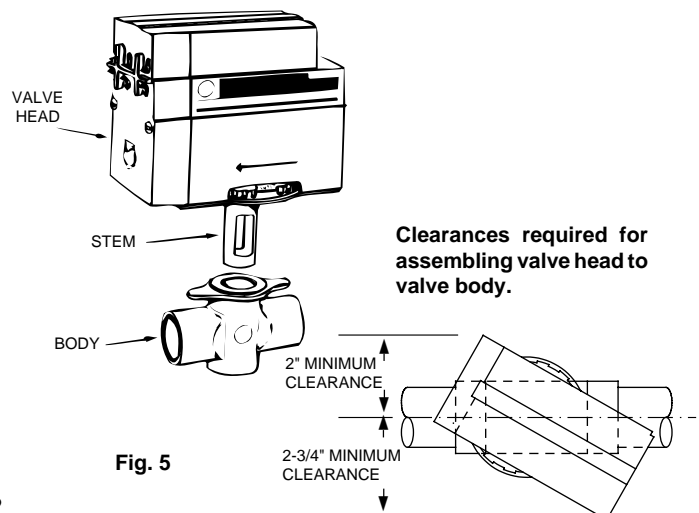

Fig. 5
2. Mount the valve body in the line in any desired position **except upside down.** **CAUTION:** Provide the necessary clearances for turning valve head sideways when assembling it to valve body (see fig. 5). Note that terminal end of valve head requires more clearance.
5. The valve head may now be assembled to the valve body. With valve head positioned as shown in figure 5, insert valve stem into valve bore, push downward, and turn valve head until it locks to valve body.